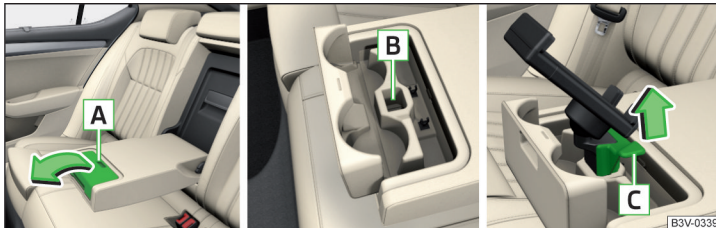

Fig. 135 Open storage compartment / stowage compartment for holder / remove holder
- › To **insert**, hold the lid on the recess **A** and fold open in the direction of arrow » Fig. 135.